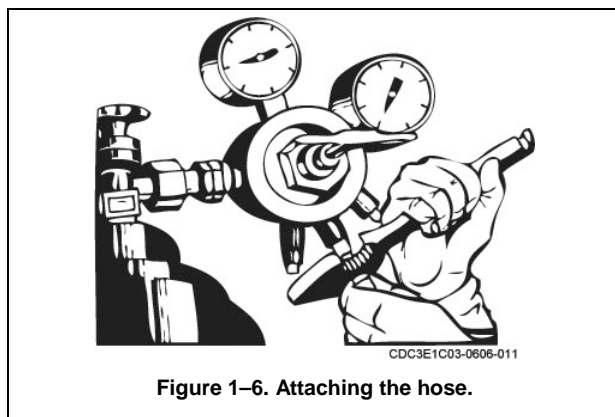
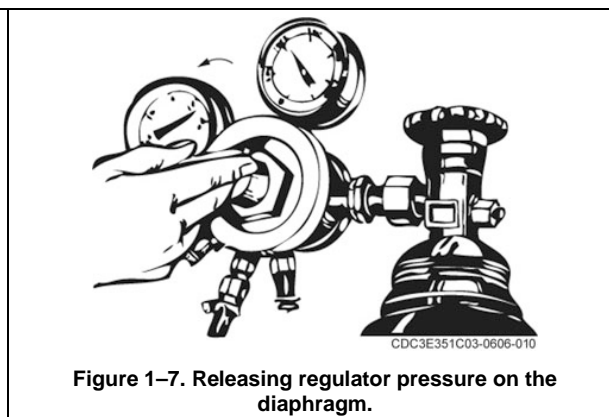

Figure 1-6. Attaching the hose.
Figure 1-7. Releasing regulator pressure on the diaphragm.
5. Secure the nuts tightly with the torch wrench (fig. 1-6). Be sure the adjusting screws on the regulators are fully released before opening the cylinder valve (fig. 1-7).